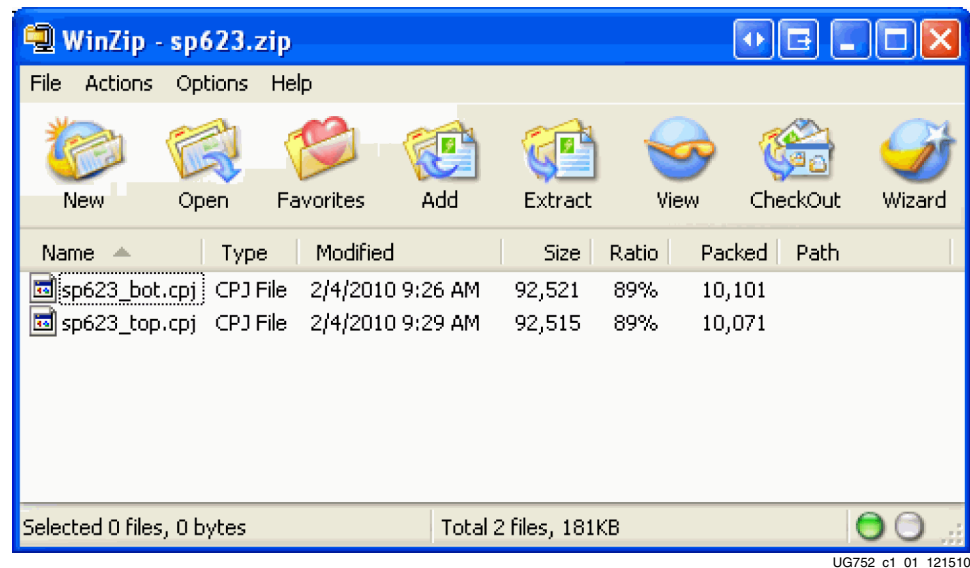

Figure 1-1: ChipScope Software Project Files Included in the sp623.zip File
2. Locate the file sp623.zip on the Compact Flash memory card. The ZIP file content is similar to the files shown in Figure 1-1.